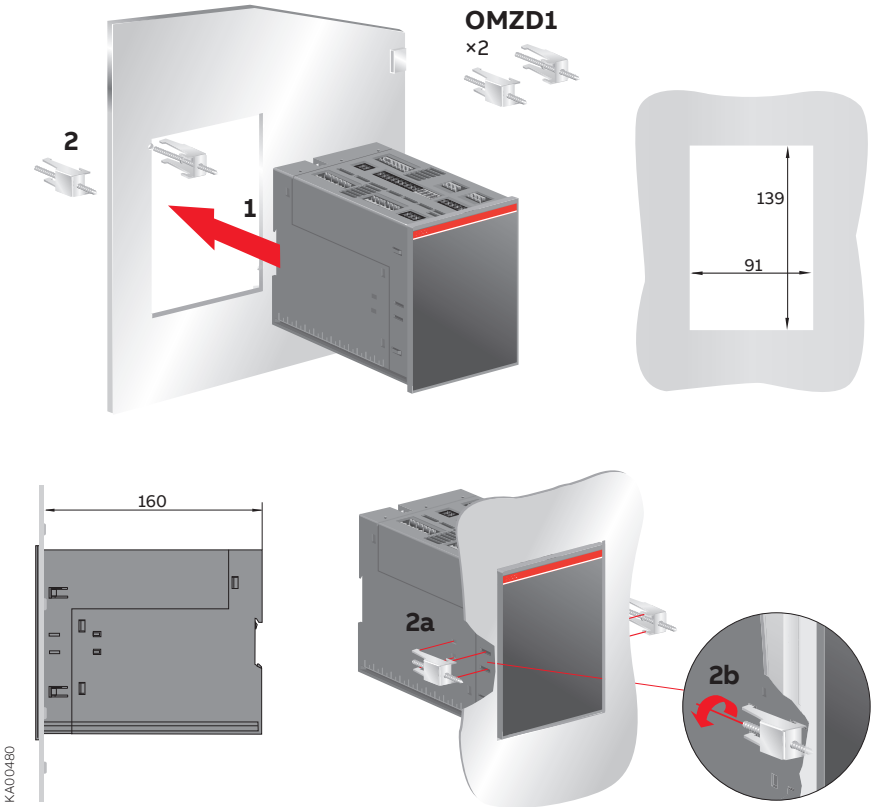

Figure 4.1 OMD800, dimensions of the device
- a Make sure that power LED is ON, see the Figure 4.1/①.
- b If Auto LED is OFF /②, the automatic control unit is in Manual Mode.
- c If the Auto LED is ON, push the AUTO key once /③. The Auto LED switches to OFF and the automatic control unit OMD800 is in Manual Mode /④.